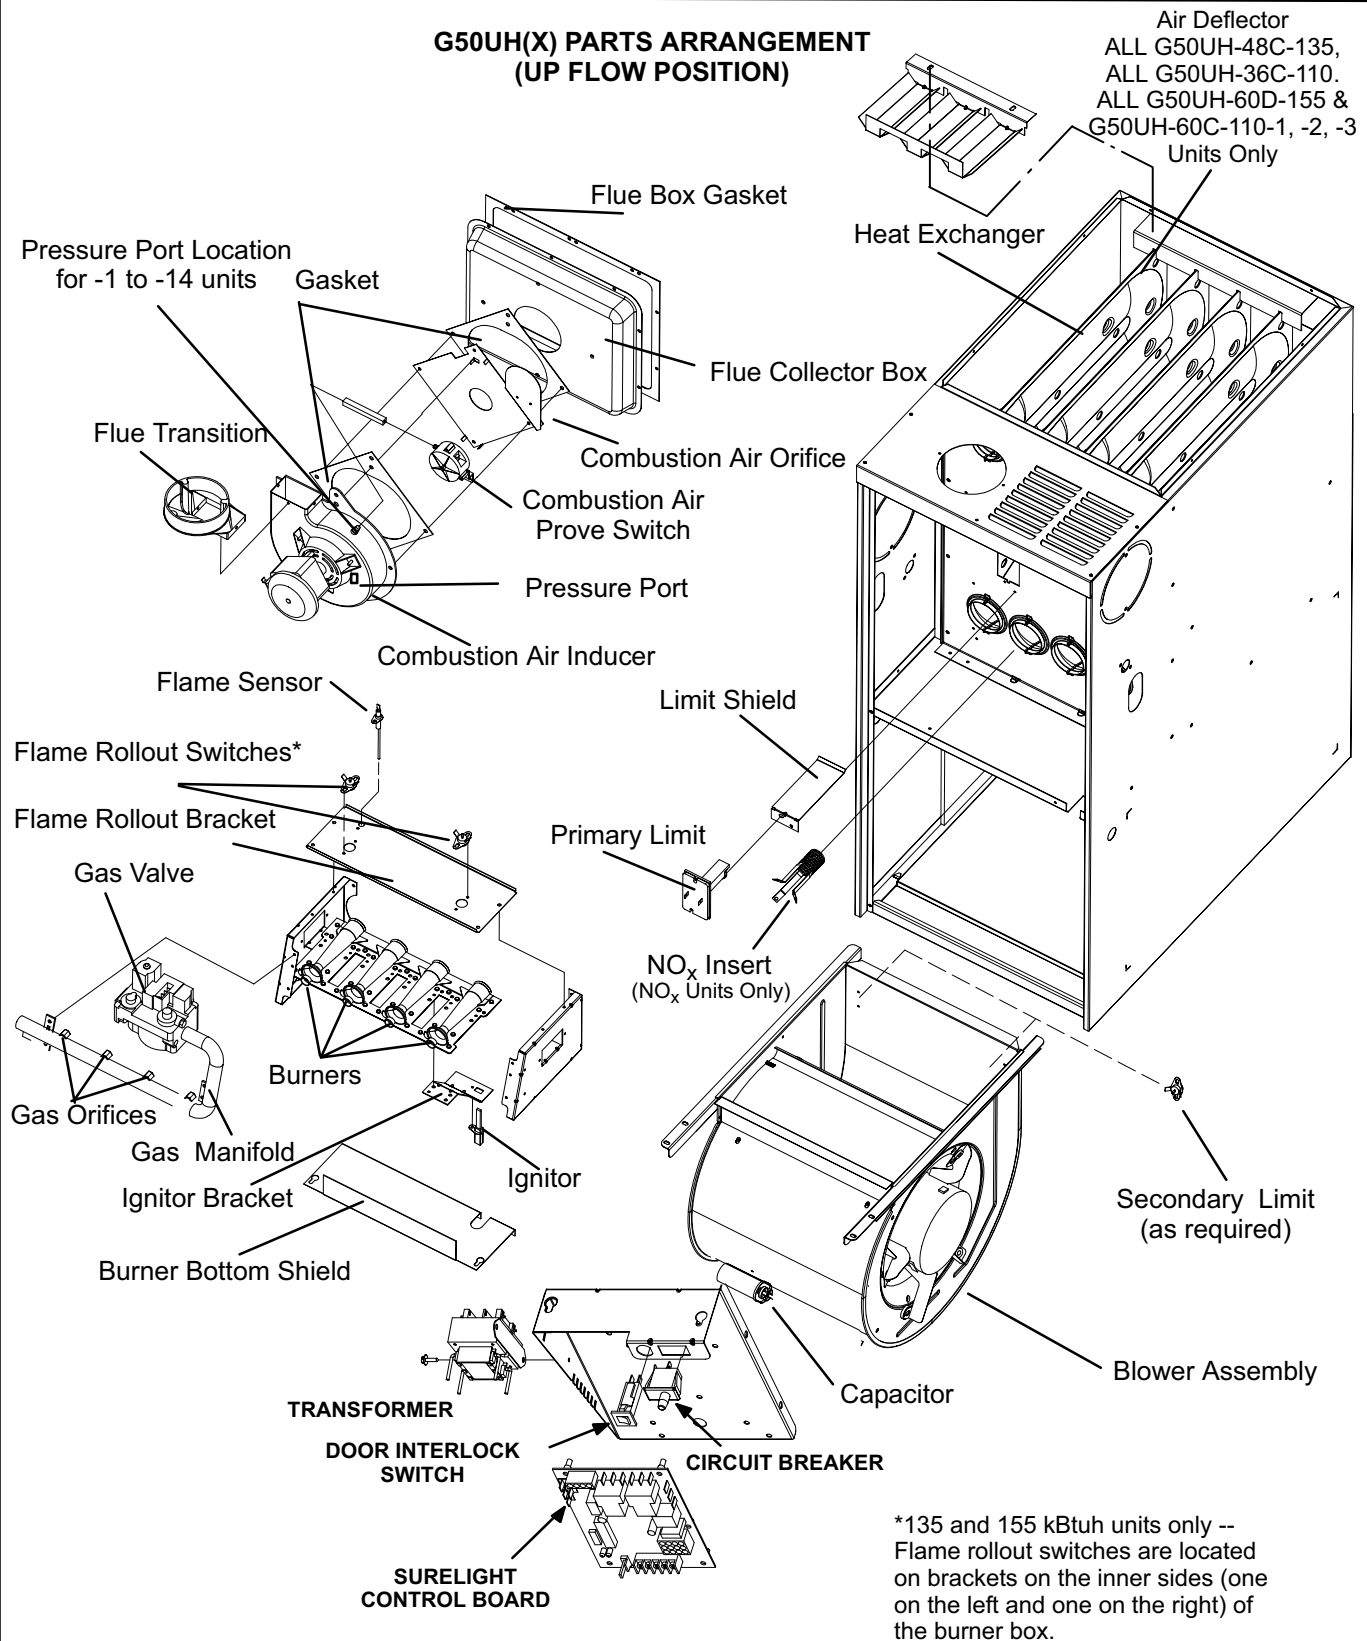
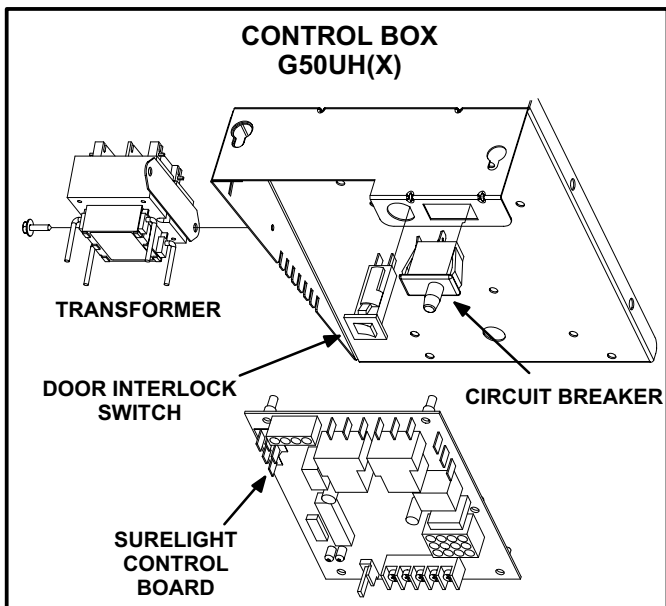

FIGURE 1
FIGURE 4
G50UH(X) unit components are shown in figures 1, 2 and 3. The gas valve, combustion air inducer and burners can be accessed by removing the burner access panel. Electrical components are in the control box (figure 4) found in the blower section.